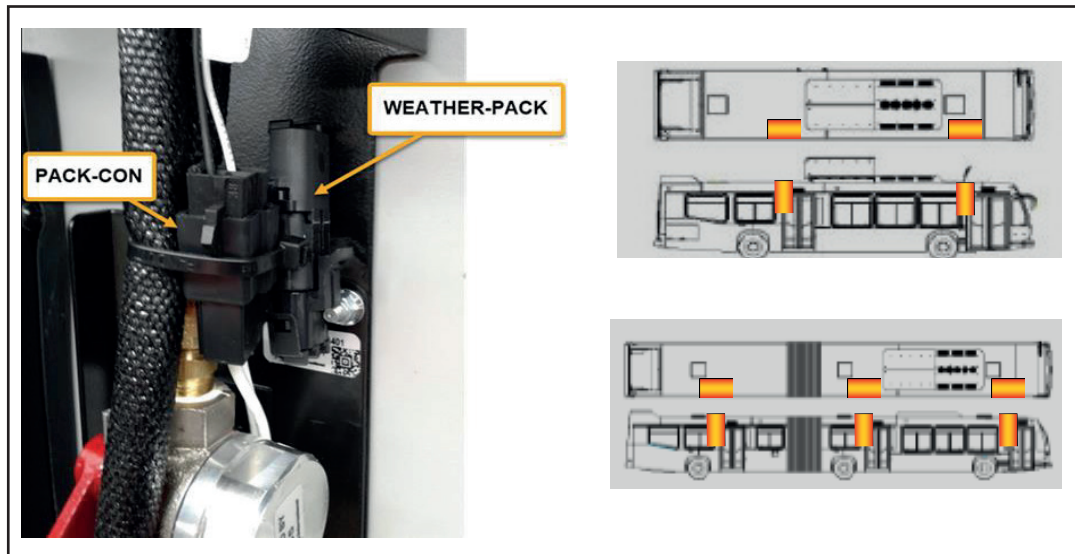

Figure 3 - View of Pack-con Connector
- 1.5. Remove the Pack-Con Connector (see figure 3).